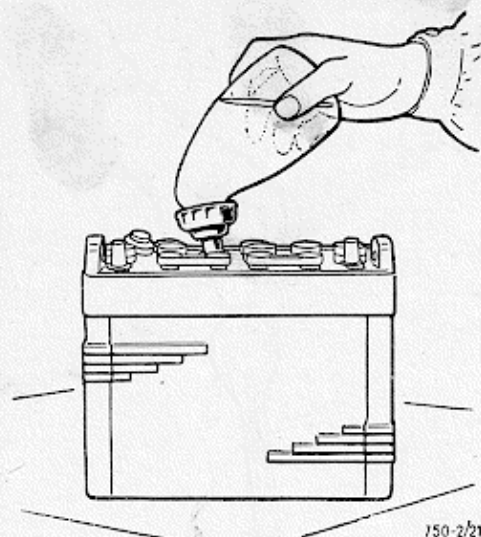

Fig. 21 - Restoring the electrolyte level in the battery
c) **Check that level of the electrolyte** in the battery is 4 to 5 mm. above the top of the plates; this can be checked by resting a wooden stick on the top of the plates. A special filler incorporating a nozzle with a valve preventing the passage of water when the above level is reached (fig. 21) allows the level to be checked at the time of topping up the battery.